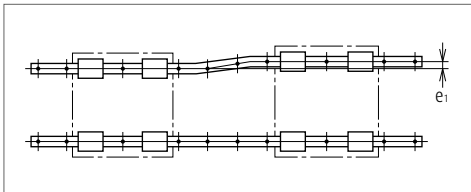

Fig. 5
- › **Figs. 5 and 6** are representing the mounting errors of e_1 and e_2 . Their permissible values are shown in the description of the installation of each series.